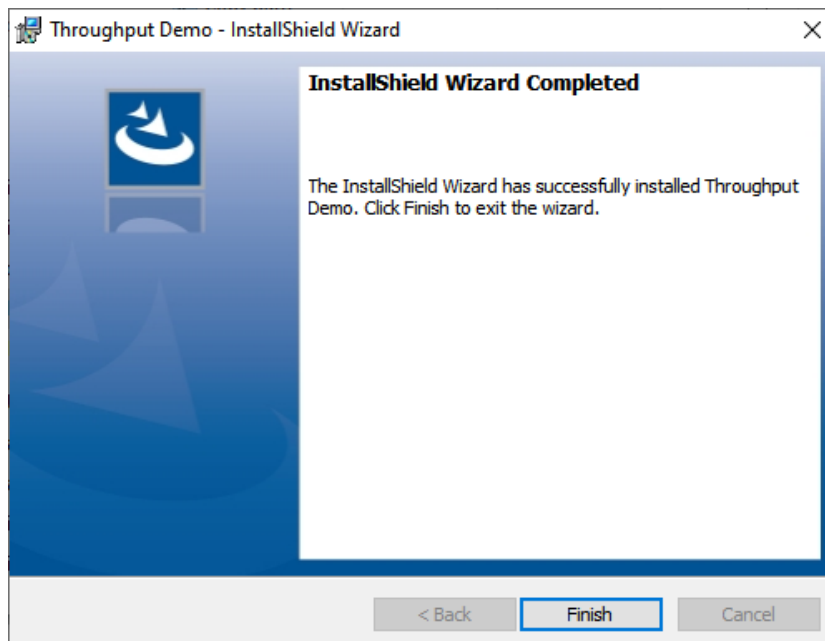

Figure 3.26. Application Installed
5. Installation of the DMA Throughput Demo application starts. When installation of the software is completed (Figure 3.26), the drivers are installed.